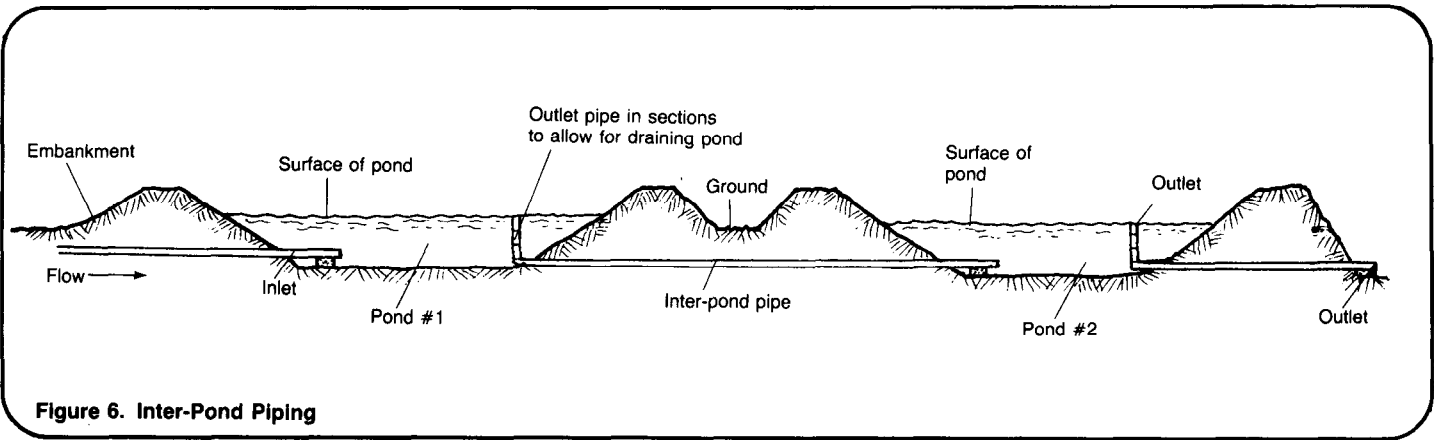

Figure 6. Inter-Pond Piping
6. Design drawings of all interpond piping, similar to Figure 6.